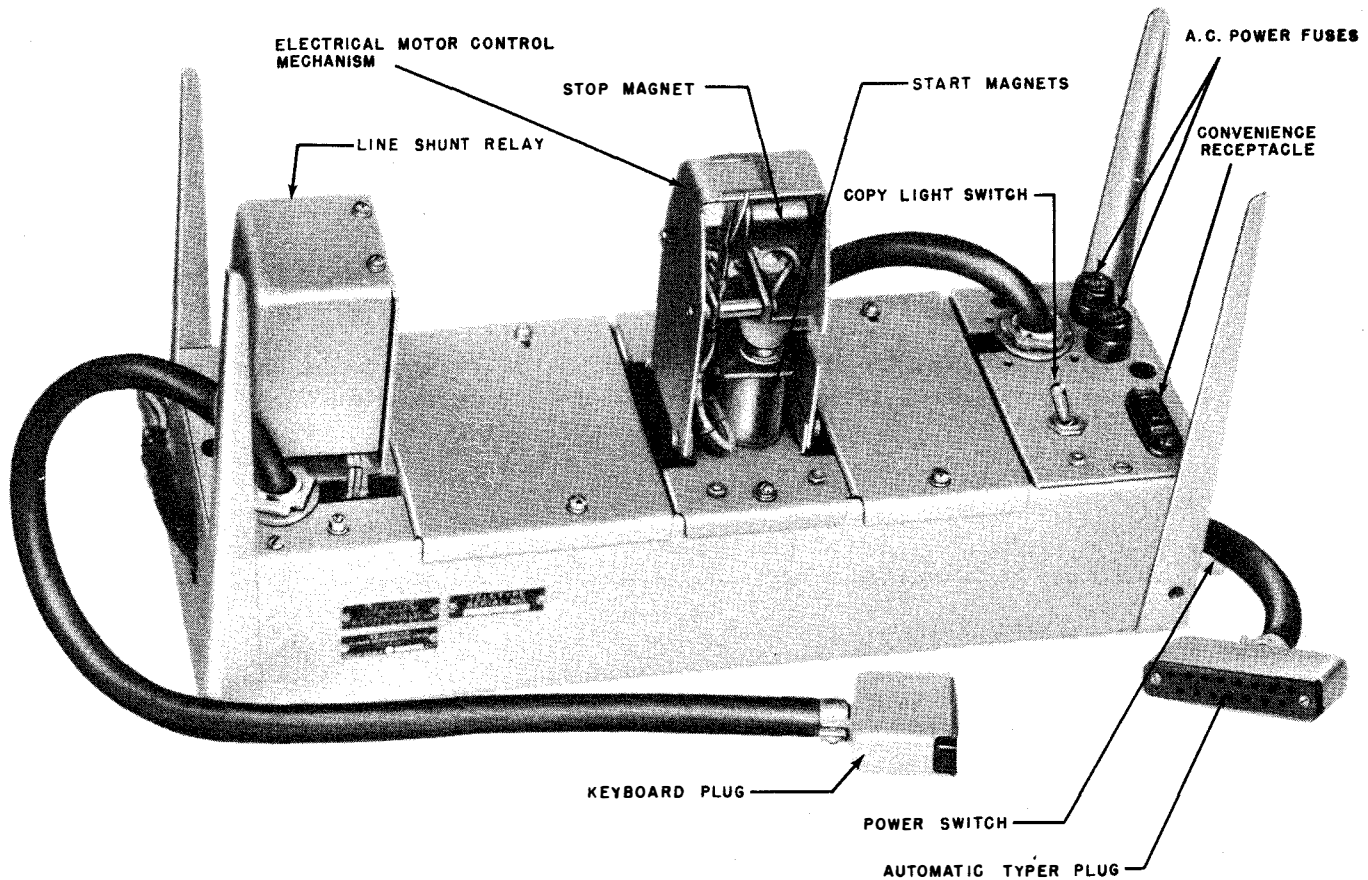

Figure 1-13. Power Distribution Panel SB-154/UG
e. POWER DISTRIBUTION PANEL SB-154/UG. (See figure 1-13.)—The Power Distribution Panel is located in the upper compartment of the Cabinet. It incorporates motor control circuit elements, receptacles, fuses, switches, etc., which are associated with the power and signal line circuits.